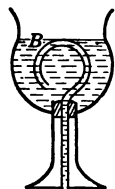

FIG. 69. — Intermittent siphon.
6. To what height must the siphon shown in Fig. 69 be filled before it begins to flow? How long will it continue to flow? To what height must the liquid rise to start the flow a second time?